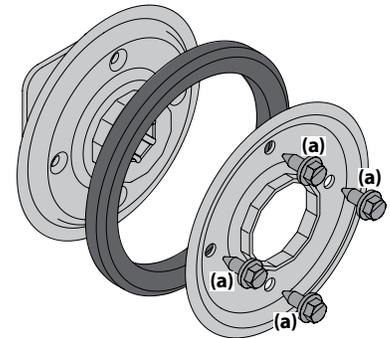

Figure 4-18
- Remove four screws (a) which secure friction wheel's side plates together. See Figure 4-18.